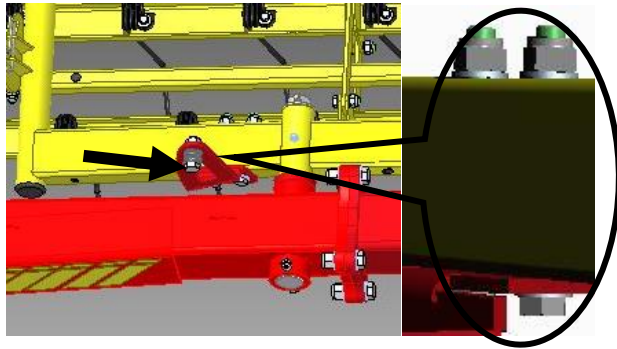

Figure 7
- Install the welded assembly KG12 instead of the previously removed pivoting limiter using the M12x110 bolts and M12 nuts as well as one M12 washer each (Figure 7).